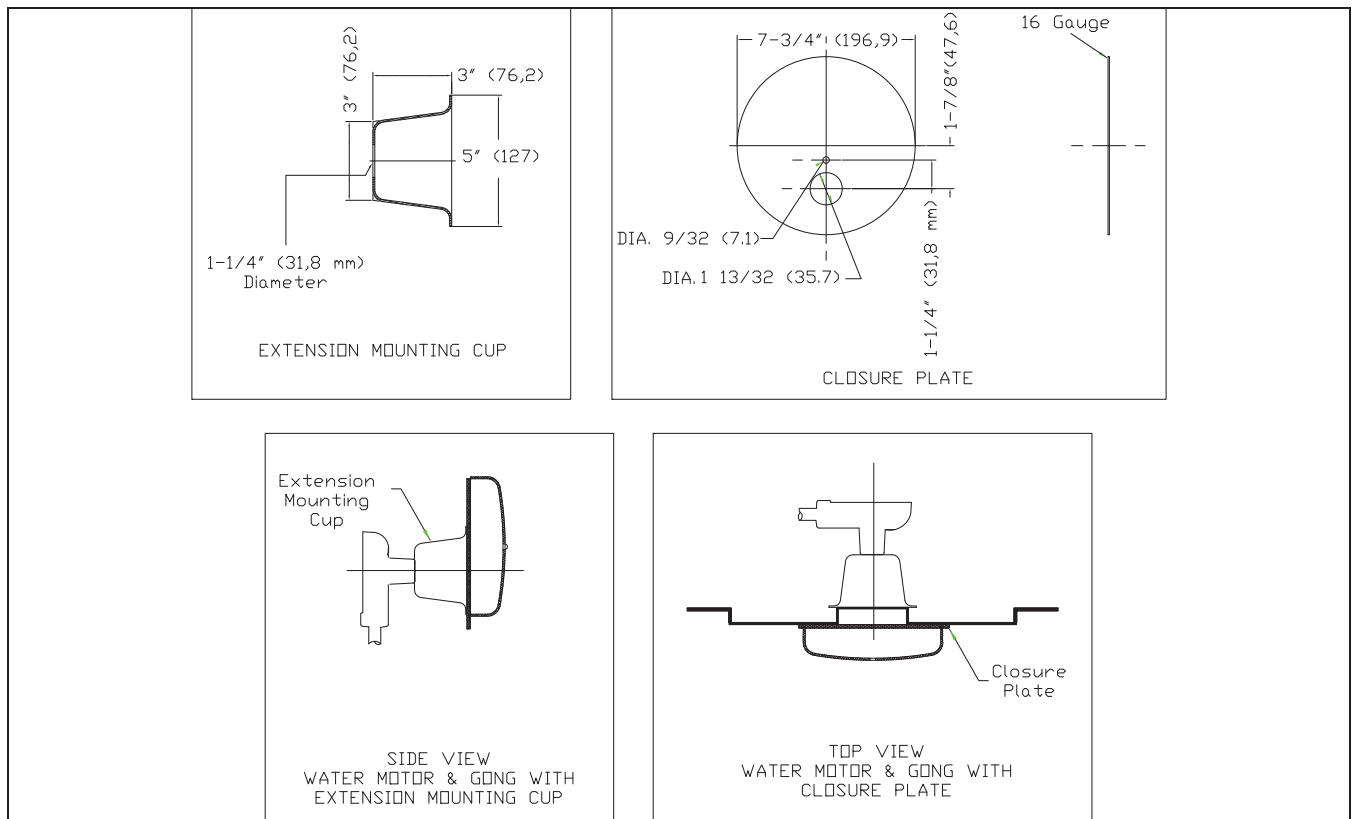

Figure 21
Accessories: (Figure 21)
5. Test the water motor alarm (Refer to Figure 21 for the alarm test line).